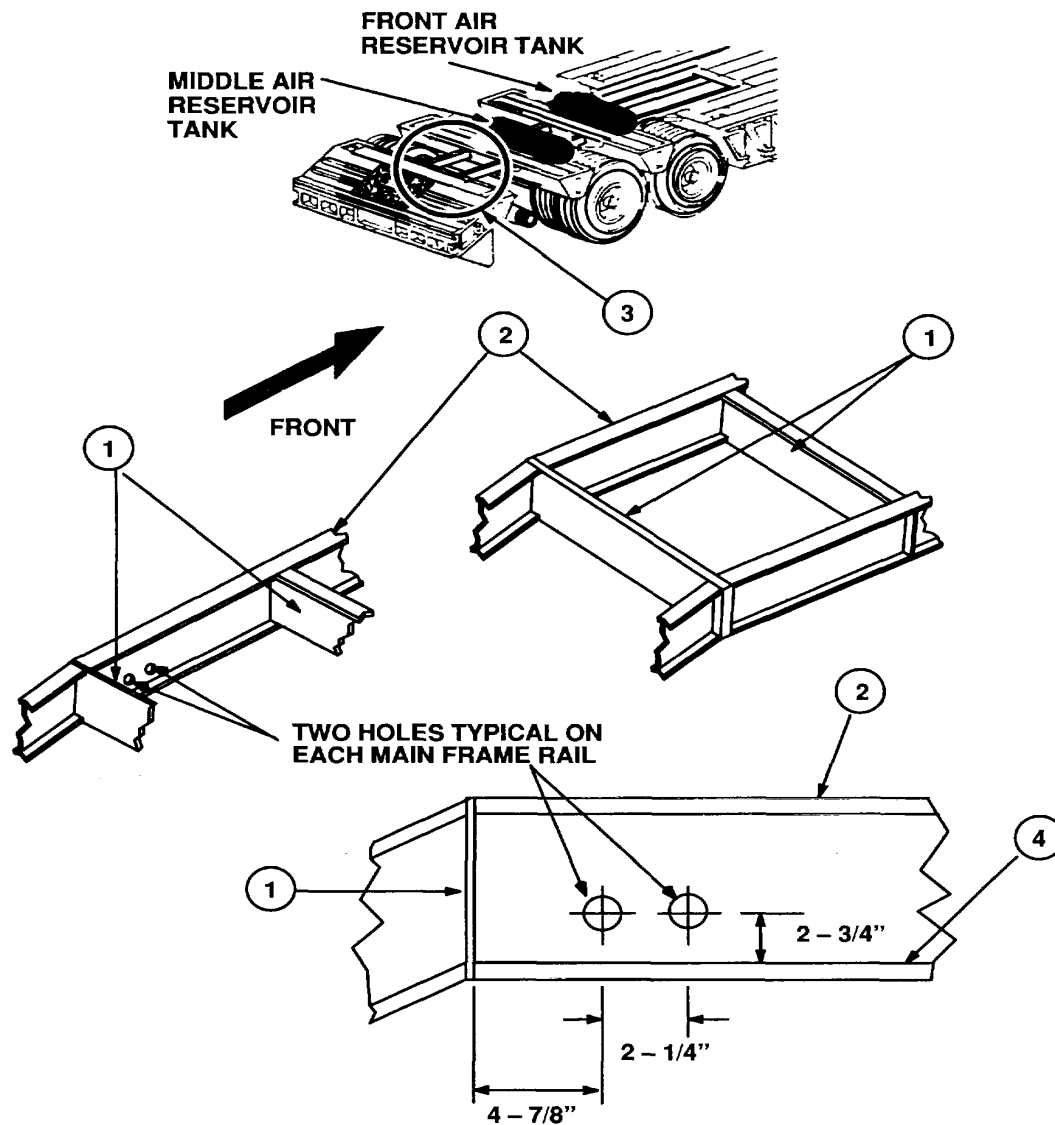

Figure 1.
- d. Refer to Figure 1.
- (1) Locate main frame crossmember (1) on inside of semitrailer mainframe rails (2) behind rear axle (3) as shown.
- (2) From mainframe crossmember (1), measure 4-7/8-inches forward and 2-3/4-inches up from the top of mainframe lower flange (4). Mark location using suitable scribe and center punch.
- (3) From marked location, and on the same vertical line as shown, measure forward 2-1/4-inches and mark second location using suitable scribe and center punch.
- (4) Repeat this procedure for opposite side of semitrailer.